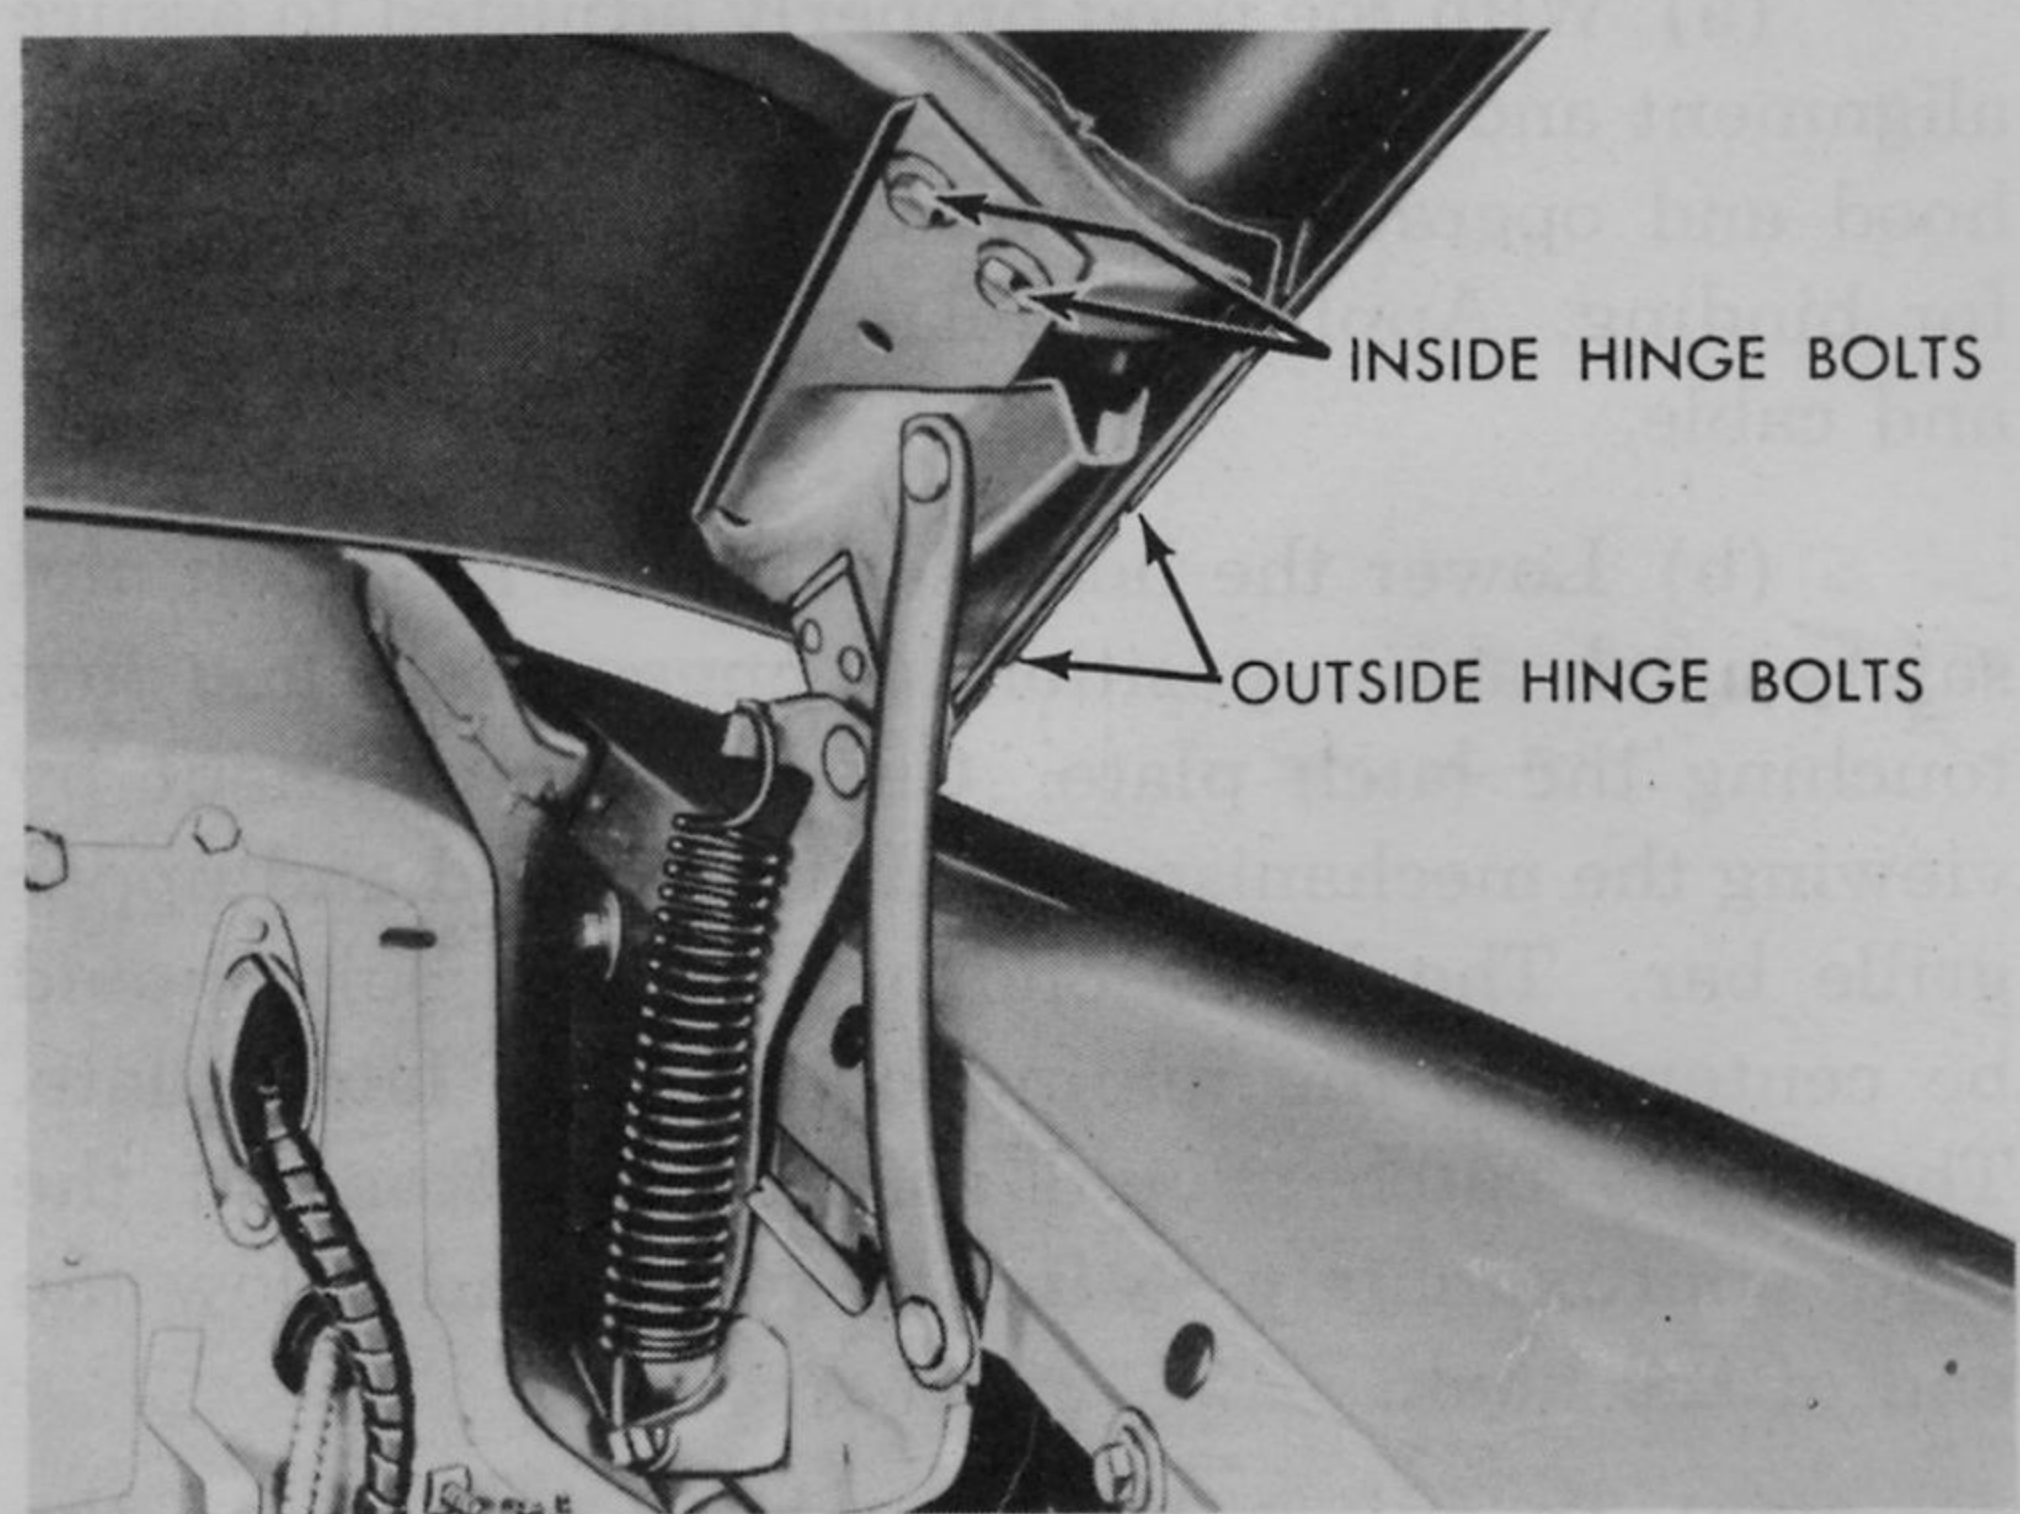

Fig. 334—Hood Hinge Mounting—Frazer
**b. HOOD HINGES.** The hood hinges are the spring loaded counterbalancing type which permit opening or closing of the hood with a minimum of effort. The hinges used on the Frazer models are mounted on brackets which are permanently attached to the front cowl. The hood is attached to the upper hinge arms by four bolts on each side. A coil type counterbalancing spring is used with this type hinge (Fig. 334).
**c. HOOD REPLACEMENT.** Lift the hood and remove the inside and outside hinge bolts at each hinge. Supporting the hood at both sides lift from the hinges. Refer to Figs. 334 and 335. Install the hood and adjust at the hinges as follows: